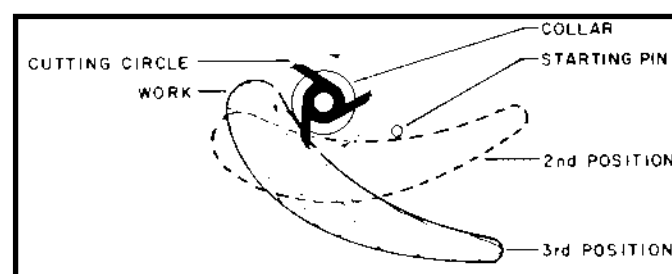

Fig. 43
3. After the cut has started, swing the work free of the starting pin and let it ride only against the collar (third position, Fig. 43). **ALWAYS FEED WORKPIECE AGAINST THE ROTATION OF THE CUTTER.**